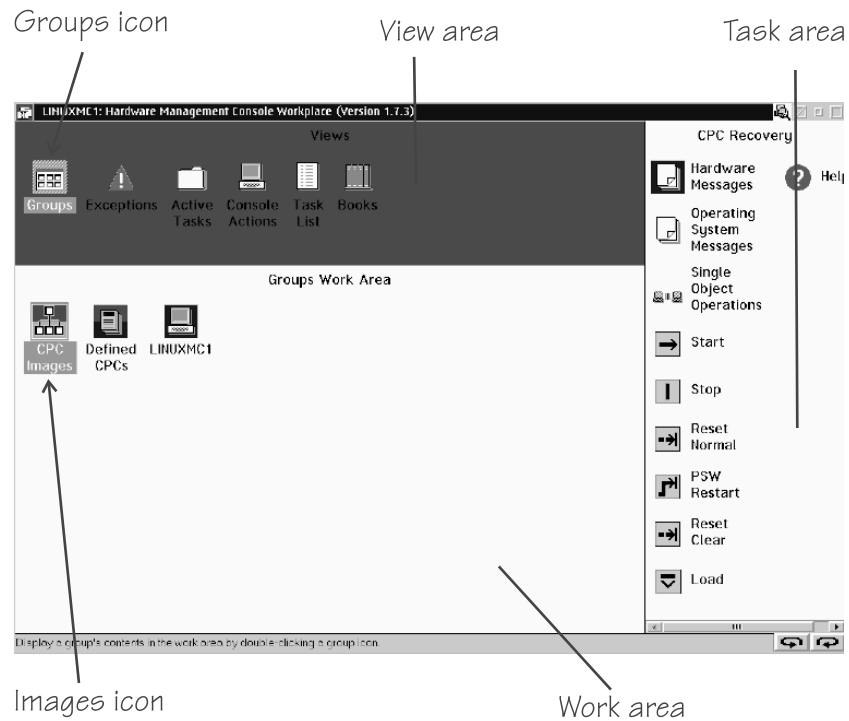

Figure 72. Groups Work Area on the HMC
1. Click the Groups icon in the "Views" area of the HMC to display the "Groups Work Area" (Figure 72 on page 369).